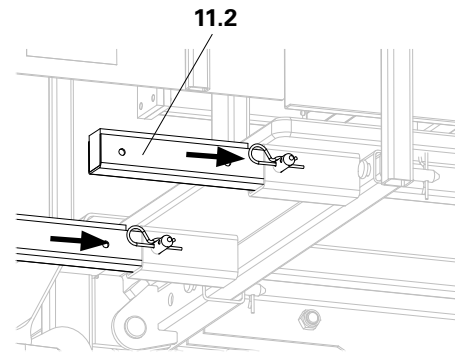

Fig. A3.05a
1. Insert Platform Extension MXP (11.2) into the front end of the platform and secure with pin and cotter pin. (Fig. A3.05a)